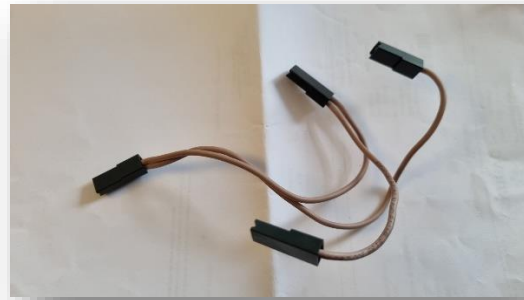

Fig. 2.3
- Remove from 1 (Power Btn. Left-down position) the brown wire with black plugs (this cable make connection between 1, B, 2 and 3)(fig. 2.3)